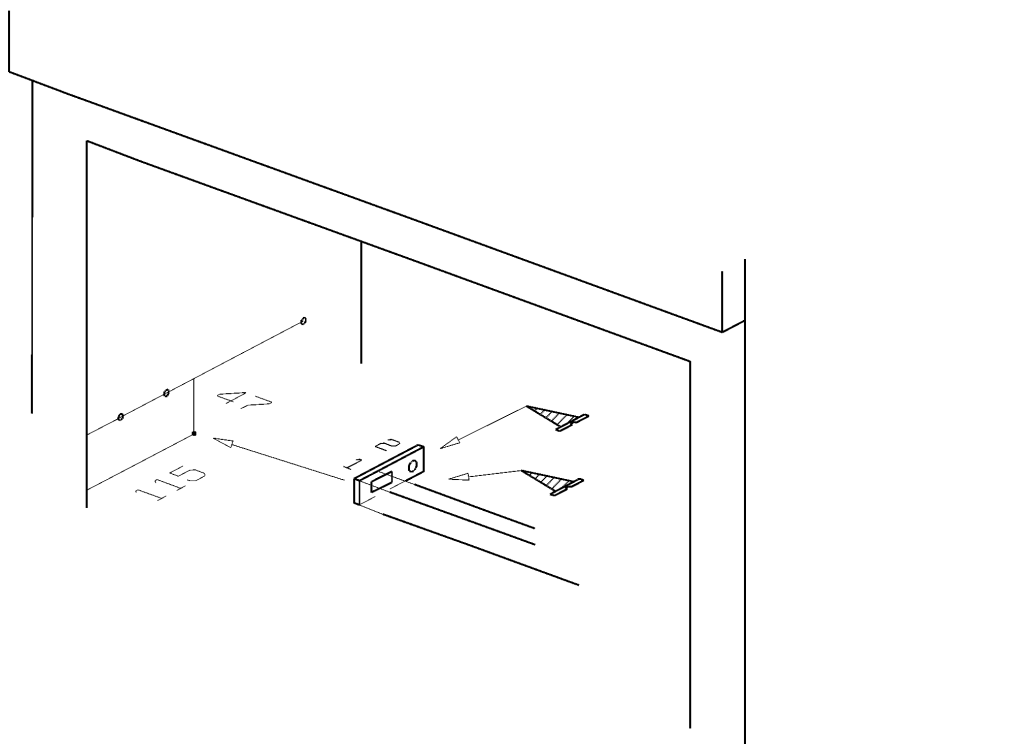

Fig. 4
- If the compartment does not have a shelf for the machine to rest on, assemble the machine fixing bracket (ref.29) as shown in fig.4. Place screw 1 in the slot of the bracket and adjust the position before locking in place using screw 2.